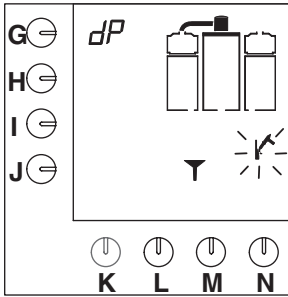

Fig. 16 Coffee-making system asks for descaling solution
- A signal sounds, the hammer symbol flashes and a funnel appears on the display (fig.16 ).